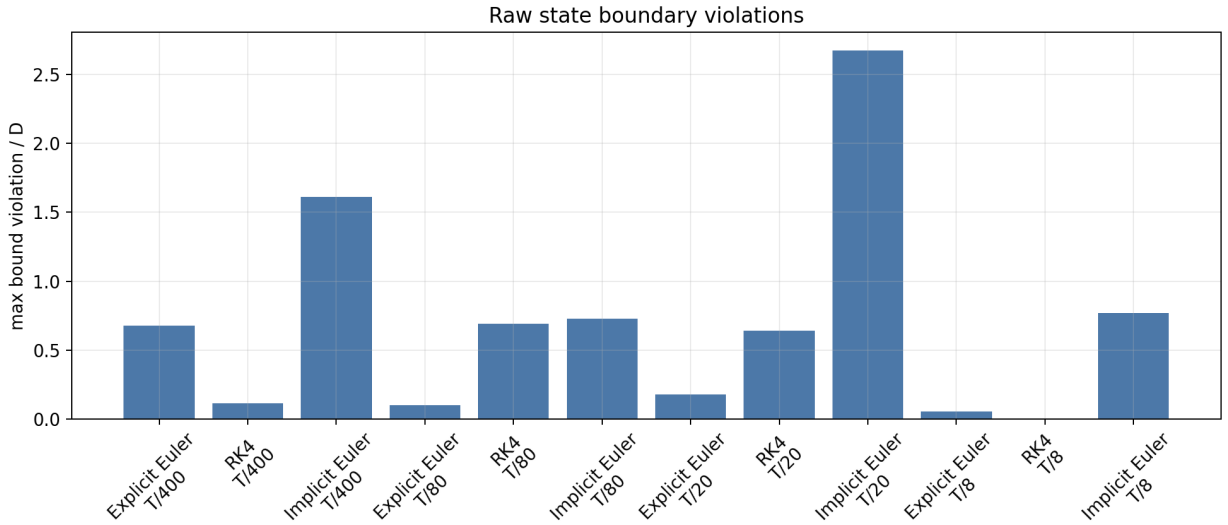

Figure 2: Maximum raw state boundary violation normalized by device thickness.
Figure 2 compresses the overshoot information into a bar chart. The vertical axis is the maximum violation normalized by D . A value of zero means the raw trajectory stayed within the physical interval for that method and step size.
6.5 Presentation explanation for Figure 2